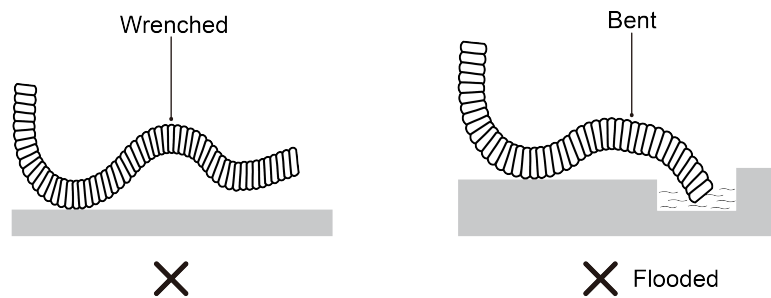

Fig 4.3
- (1) For proper draining, the drain hose should be placed at a downward sloping.
- (2) Do not wrench or bend the drain hose or flood its end by water. (Fig.4.3)
- (3) Wrap the drain hose with heat resistant material.
- (4) It is not allowed to connect the condensate drain pipe into waste pipe or other pipelines which are likely to produce corrosive or peculiar smell to prevent the smell from entering indoors or corrupt the unit.
- (5) It is not allowed to connect the condensate drain pipe into rain pipe to prevent rain water from pouring in and cause property loss or personal injury.
- (6) Condensate drain pipe should be connected into special drain system for air conditioner.